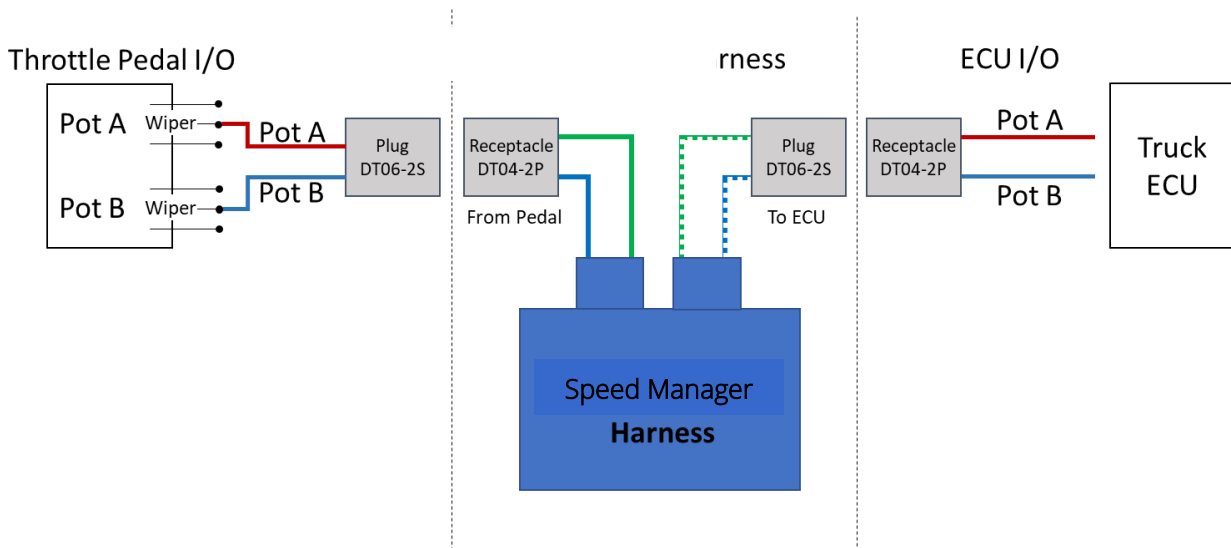

Figure 5.A (Wired Method) Truck Pedal and Truck ECU Potentiometer A and B Connection to Speed Manager Harness
- The Speed Manager harness ships pre-assembled with Deutsch DT connections. If the existing pedal connections have the same Deutsch DT connections, simply unplug the pedal connections, and connect them to the Powerfleet pedal cable as indicated. **(Figure 5.A)**
- If the vehicle uses different connectors or no connectors, cut the appropriate wires and assemble to the provided Deutsch DT connectors in the kit for making a connection to Speed Manager **(Figure 5.A)**.
- Speed Manager-to-ECM: terminate each wire with the DT-0402P Pin connector **(Figure 5.A)**.
- NOTE: Customers may opt for a "Y" harness customized for a vehicle's specific make and model, creating a "plug and play" installation. Customers must contact their Powerfleet Sales Manager to scope the customized solution. A vehicle list detailing vehicles' make, model, and year needs to be supplied ahead of time to have custom "Y" harnesses built and delivered. **(Figure 5.B)**